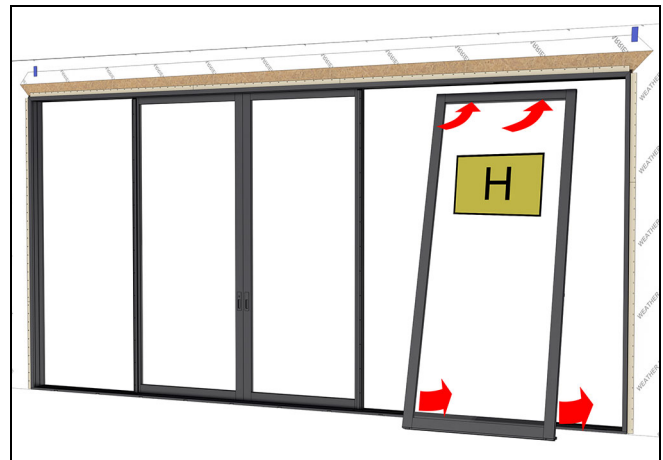
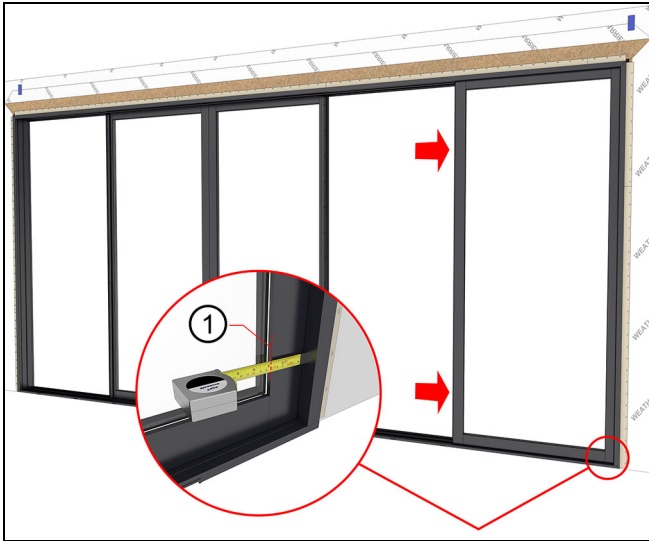

Figure 132
Figure 133
5. Install the (H) stationary panel on the exterior track, slide the panel tight against the stationary jamb. Measure from the jamb to the edge of the daylight opening. This should be about 2 5/8". See Figure 132 and Figure 133.